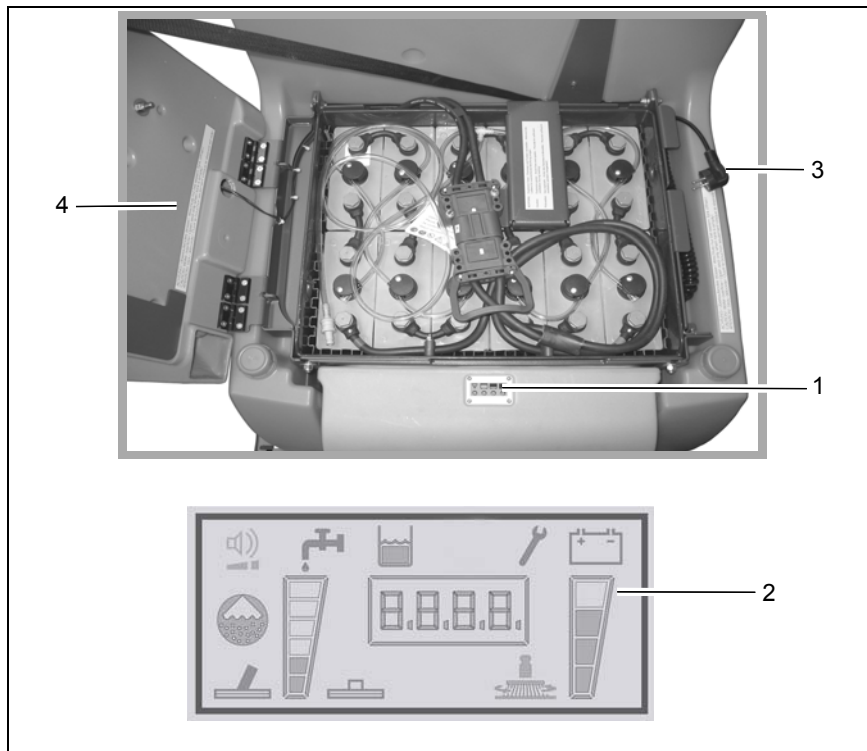

Fig. 7
The batteries are charged using the integrated battery charger (Fig. 7/1). The batteries can be charged as soon as the first field in the charge status indicator (Fig. 7/2) goes out, at the latest, however, after the cleaning functions have switched off (all fields go out).
2. Open the seat console and connect the battery charger to the power outlet using the power cable (Fig. 7/3).
The seat console (Fig. 7/4) must be open during the charging process!